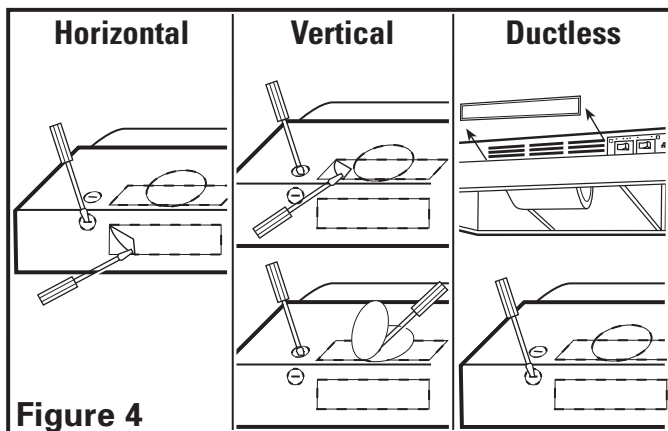

Figure 4
- 2a. **Horizontal or Vertical** - Remove the square knockout by inserting a screw driver under the edge and break the tabs holding it in place. Peel back with pliers (**Figure 4**).
- 2b. **Ductless** - Remove the hood's front louver cover, exposing the front air slots. To remove louver slide to one side and lift the trailing edge. Do not use a screwdriver or any other object that could scratch the hood (**Figure 4**).
- 2c. **7" Round** - Remove the round knockout located on the top of the hood by inserting a screw driver under the edge and break the tabs holding it in place. Peel back with pliers (**Figure 4**).
- Determine where the electrical service will enter the hood and remove the appropriate electrical knockout by inserting a screw driver into the slot and rocking back and forth until the knockout comes loose (**Figure 4**).